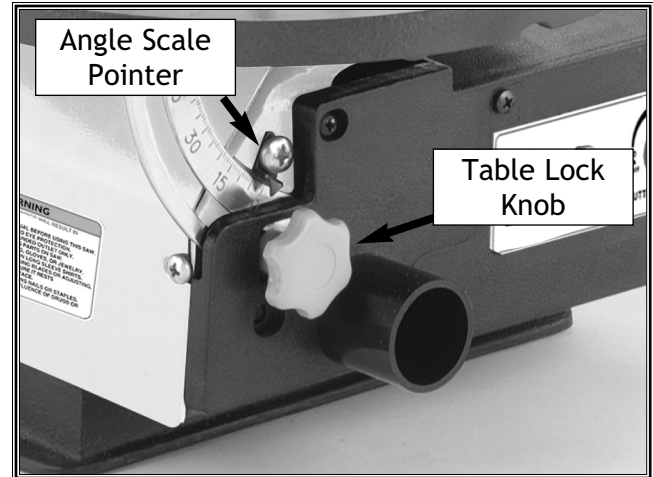

Figure 9. Lower saw adjustments.
1. Loosen the table lock knob (Figure 9).
3. Adjust the angle scale pointer to the 0° mark (Figure 9).